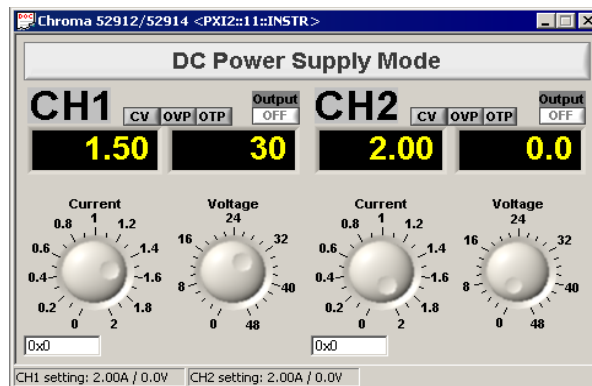

Figure 4-7 Setting Voltage/Current on DC Power Supply
- You can use either *Knobs* or *Edits* to set up the output voltage and the current limit. (See Figure 4-7)